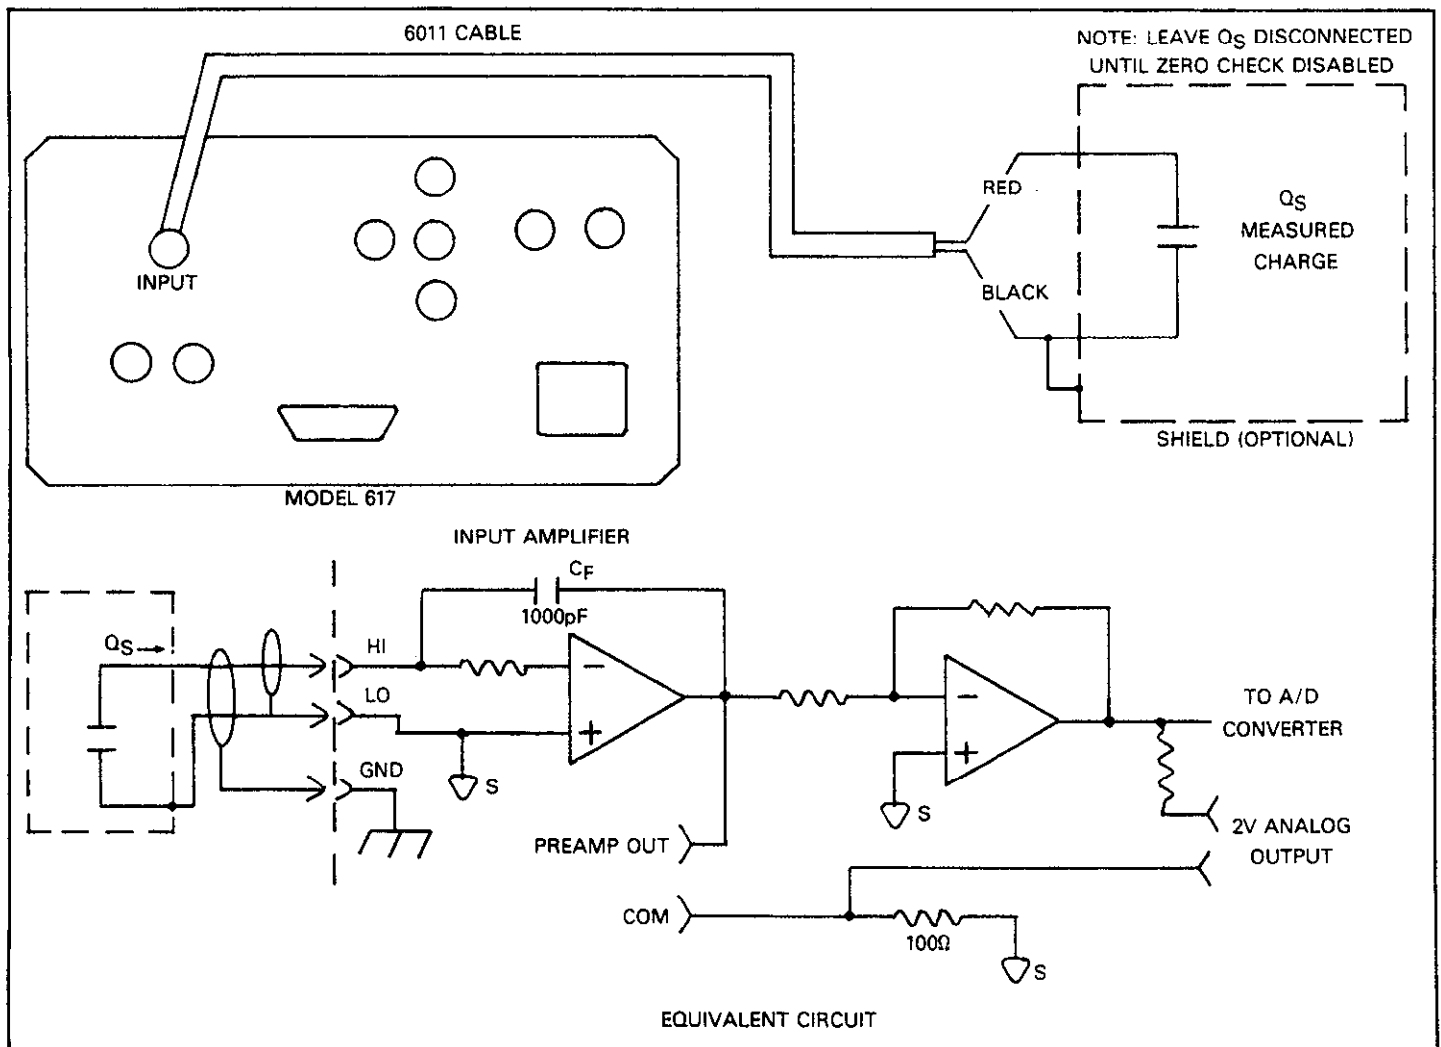

Figure 2-11. Coulombs Connections
6. Connect the Model 6011 cable to the INPUT jack. Connect the other end of the cable to the circuit being measured, as shown in Figure 2-11. For low-level measurements, shielding may be required. Note: Do not connect the circuit to the instrument with zero check enabled.